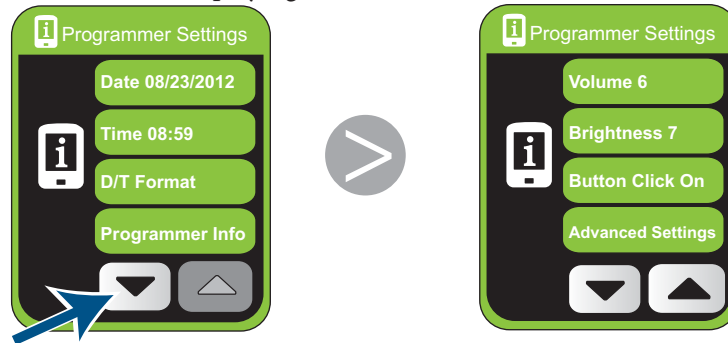

Figure 82. Viewing additional settings buttons
2. Tap  (Figure 82). Additional buttons on the Programmer Settings screen appear with the Volume button displaying the current volume.